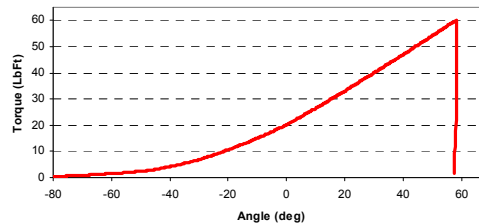
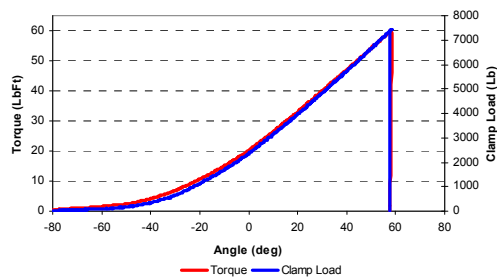
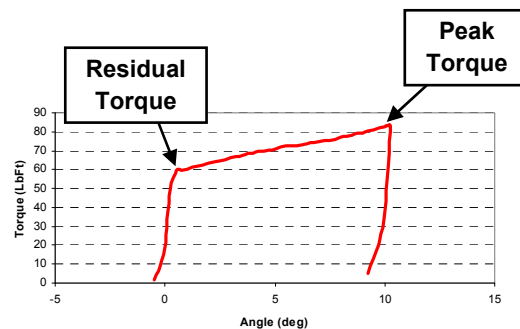
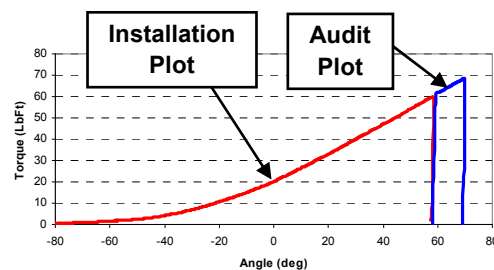

Figure 2: Torque Angle Plot
Figure 3: Torque-Tension Combined Scaled Plot
Figure 7: "Traditional" Breakaway Tightening Audit Signature
Figure 8: Installation & Audit Plots
The torque-angle signature does not directly provide a measure of the fastener tension. However, it has been verified that for a given bolted joint, properly qualified, this signature can be used to directly estimate the clamping force on the bolt, as seen in Figure 2. For example, strain gages on a bolt or stud can be used to simultaneously measure the installation torque and the bolt tension. By scaling and plotting the measured torque and tension, shown in Figure 3, it is apparent that both are in direct proportion to each other.
The objective of the M-Alpha Audit process is to **determine the “Elastic Tightening Angle”** for a preciously tightened fastener. The amount of clamping load in the joint is directly proportional to the elastic tightening angle. The process of the torque-angle curve analysis is shown in Figures 7 through 10 to illustrate the concepts of the “Elastic Origin” and how the “Elastic Tightening Angle” is determined for a given bolted joint.
Step 1: Tighten the fastener with the specified torque (as seen in Figure 2, previously) stopping in the elastic clamping region.
Traditional audits simply measured the peak torque values or used a calculation algorithm to more accurately locate a residual torque value as a measure of the joint integrity. The M-Alpha method allows the residual torque value to be measured, as shown in Figure 7. More importantly, a paradigm concept, the M-Alpha audit can provide an accurate estimate of the residual clamping load on the tightened fastener.
To illustrate the M-Alpha Audit, overlay the audit signature (Figure 7) with the installation signature (Figure 2) as shown in Figure 8.